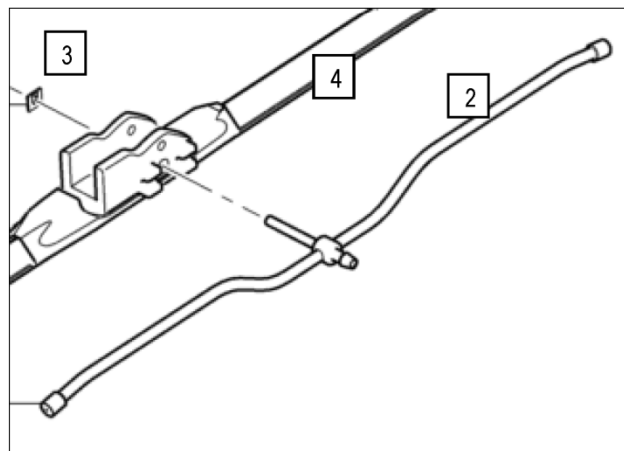

Figure 1
- 4) Detach the Wiper Blade Spray Nozzles (2) PN 3G3040V01151 from the wiper blade (4) (ref. fig 1).